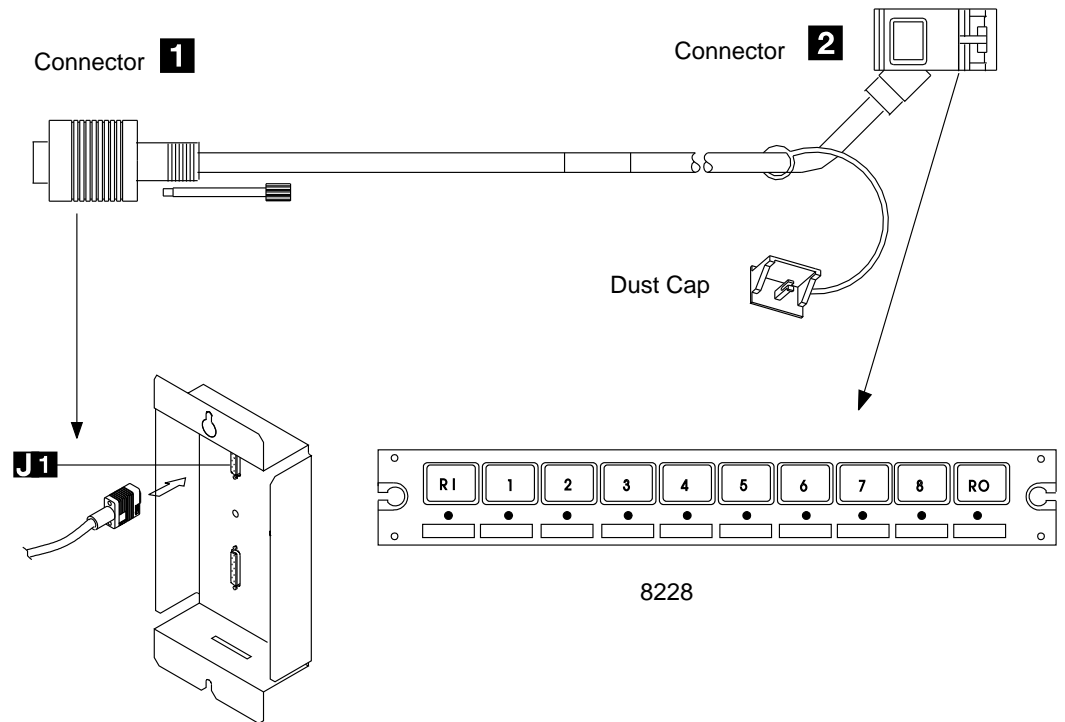

Figure 4-4. Connecting the 3745 X1A to a LAN
- b. \_\_\_ Refer to Figure 4-4 on page 4-7 and using a sticker, identify cable PN 76F9440 or 76F9441 as the "3745 X cable" (X from 1 to 4 as you can have up to 4 x 3745 connected to the same Service Processor)
- c. \_\_\_ Plug the connector **1** to **J1** in the console tailgate (see Figure 4-4 on page 4-7)